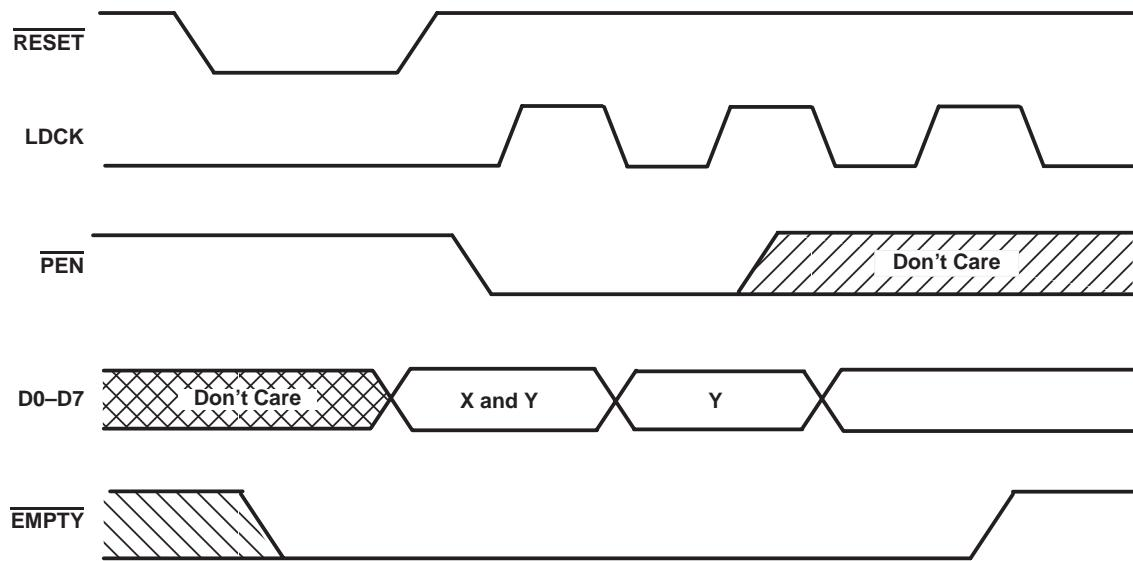

Figure 1. Programming X and Y Separately
To program the offset values, \overline{PEN} can be brought low after reset only when LDCK is low. On the following low-to-high transition of LDCK, the binary value on D0–D7 is stored as the almost-empty offset value (X) and the almost-full offset value (Y). Holding \overline{PEN} low for another low-to-high transition of LDCK reprograms Y to the binary value on D0–D7 at the time of the second LDCK low-to-high transition. Writes to the FIFO memory are disabled while the offsets are programmed. A maximum value of 255 can be programmed for either X or Y (see Figure 1). To use the default values of X = Y = 64, \overline{PEN} must be held high.
timing requirements over recommended operating conditions (see Figures 1 through 3)